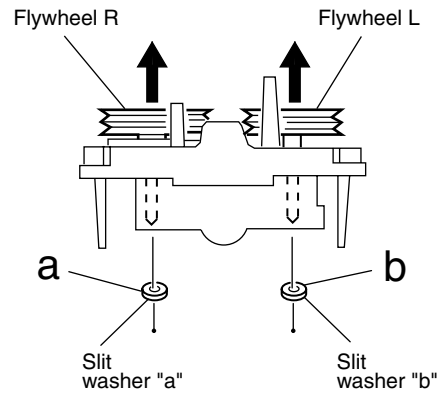

Fig.9
■ **Removing the flywheel (See Fig. 9,10)**